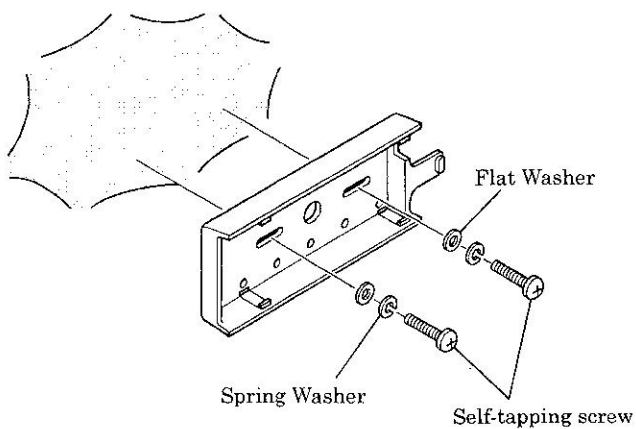

Figure 4
6. Referring to Figures 4 and 5, mount the Front Panel Nest in the desired location.